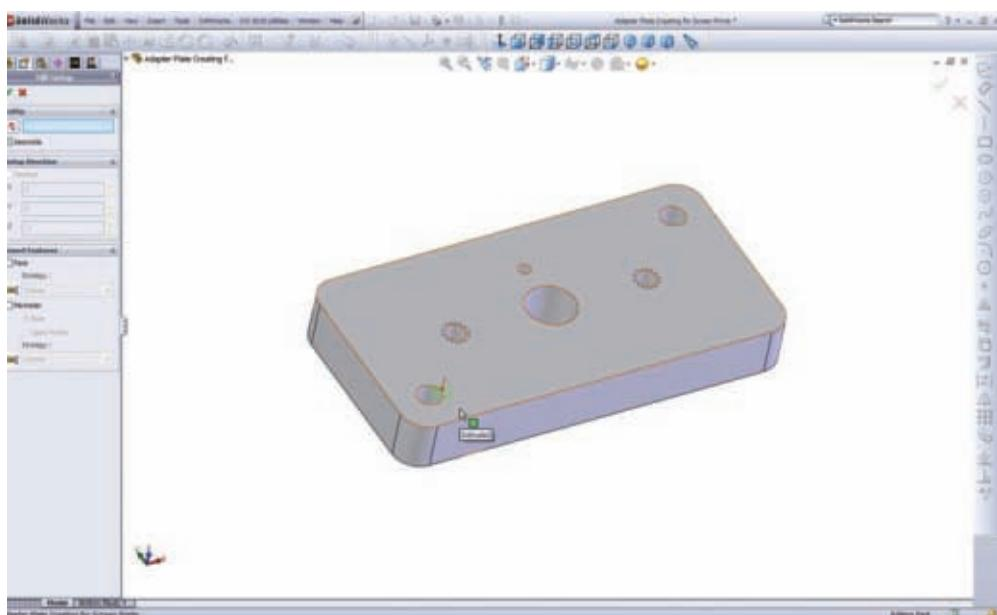

Figure 7-5
8. Insert a part setup. (see Fig. 7-5)
The adapter plate in Figure 7-5 will be machined in two setups. The first will cut the holes and the perimeter of the part. The second will machine the excess material off the back side. The planning for this adapter plate is uncomplicated because there are only two setups. That won't always be the case. The more setups needed to machine a part, the more thought you must put into planning.